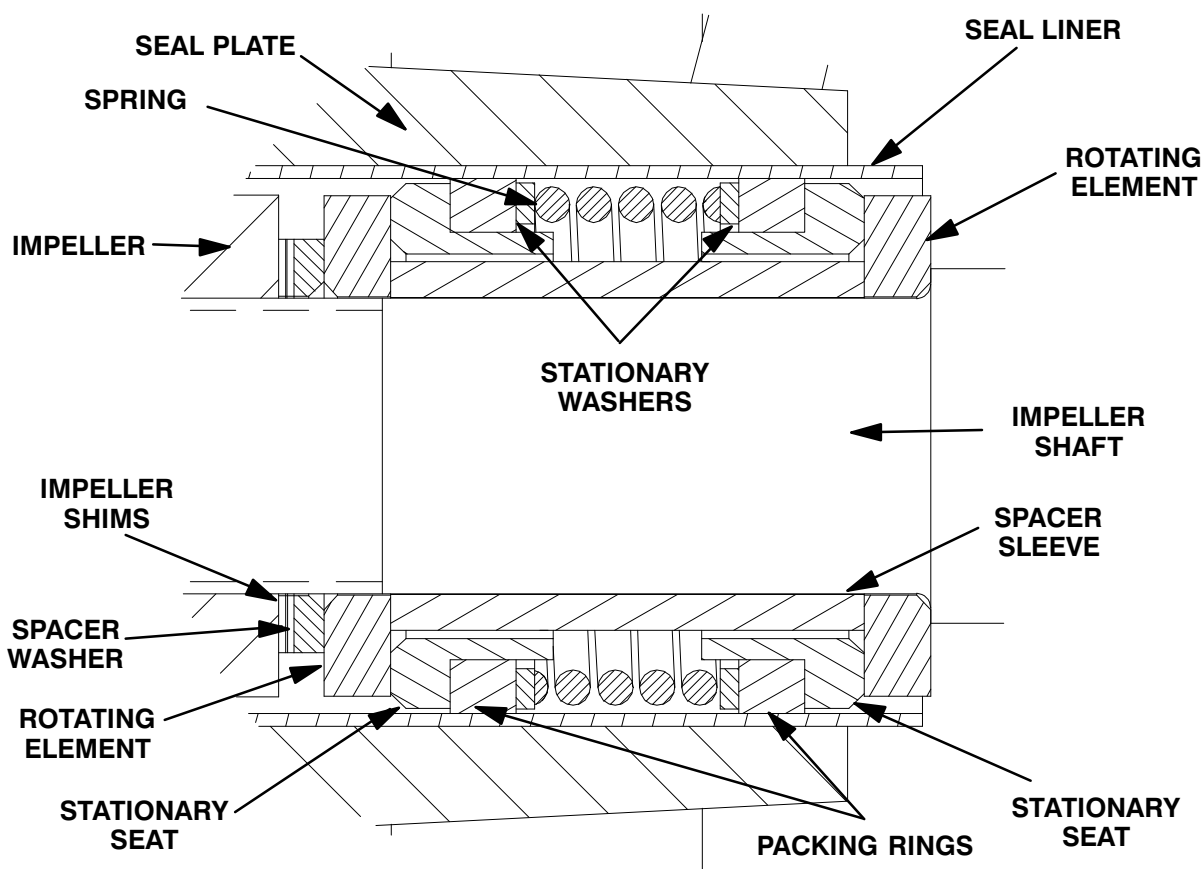

Figure 3. Seal Assembly
To ease installation of the seal, lubricate the seal liner (63) with water or a very **small** amount of oil, and apply a drop of light lubricating oil on the finished faces. Assemble the seal as follows, (see Figure 3).